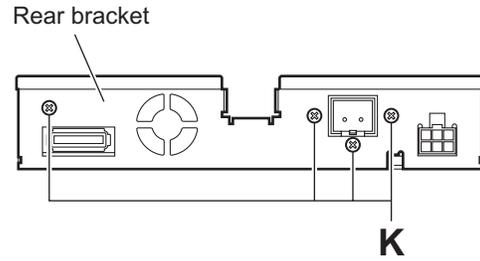

Fig.12
### 3.1.6 Removing the main board (See Figs.12 and 13)
- (1) From the rear side of the main body, remove the four screws **K** attaching the rear bracket. (See Fig.12.)